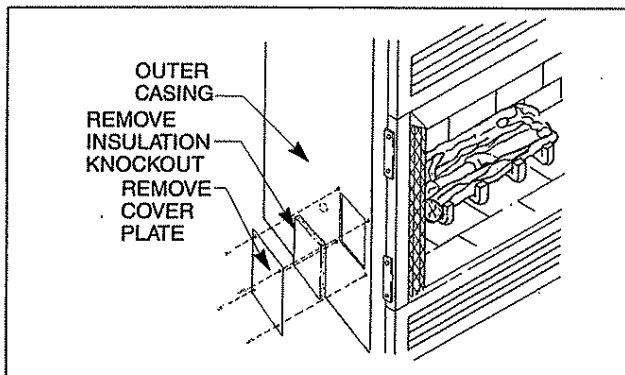

Fig. 30. Remove cover plate from the fireplace.
1. Remove the four (4) screws, outside air cover plate and internal insulation knockout from the left side of the fireplace. (See Fig. 30.) Retain the screws for mounting the damper assembly to the fireplace. Discard the cover plate and insulation knockout.